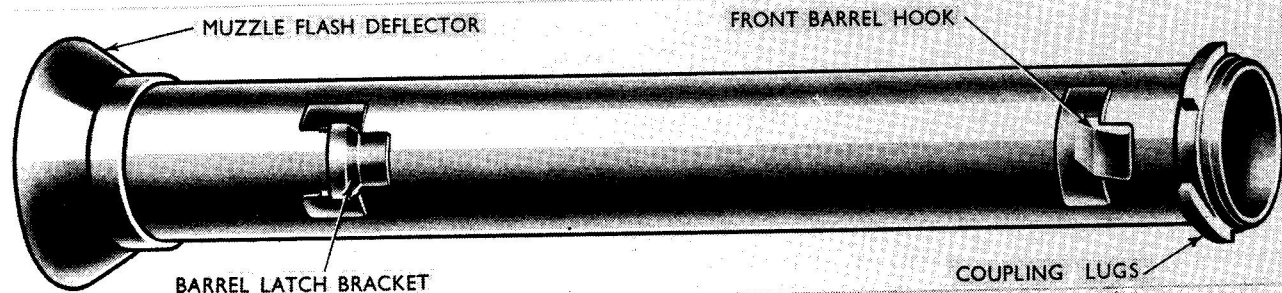

Fig. 10 Front Barrel
14.0. The front barrel (Fig.10) is fitted at its rear end with three inclined lugs mating with three internally formed lugs on the rear barrel and requiring about 60 degrees clockwise rotation to engage the two. In the locked position, the two portions of the barrel should be firmly secured and there should be no play. A hook in front of the threaded portion provides the means of attachment to an eye on the rear barrel part when the launcher is in the carrying position.
15.0. The barrel latch bracket (Fig.10) is fitted to the side of the front barrel near the muzzle end. In conjunction with the latch bolt on the rear half of the launcher, it secures the launcher in the carrying position.
16.0. The muzzle flash deflector (Fig.10) which is formed at the front of the barrel, diverts blast and particles of unburned powder which might otherwise strike the user.